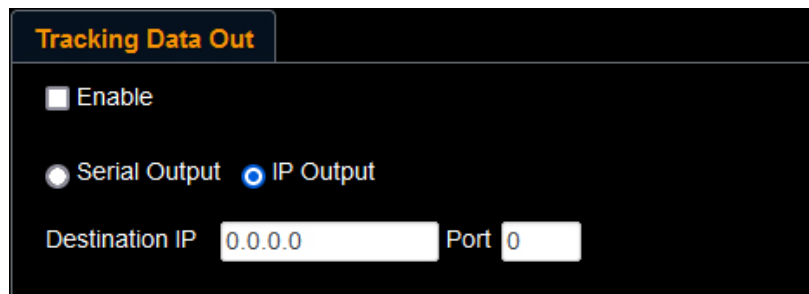

Figure 29 - Tracking Data Out Area of the Web Interface for a PTZ-12G+, PTZ-12G, or PTZ-NDI Camera
- Find the **Tracking Data Out** area (Figure 29).